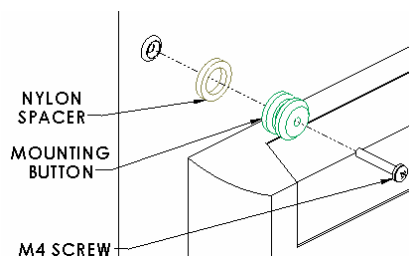
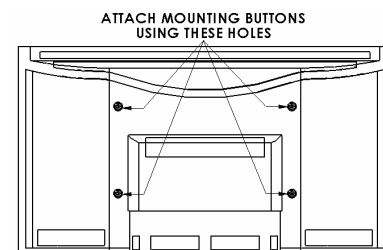

Figure 3
Figure 4
2. Place nylon spacers over mounting holes and attach mounting buttons to the display using the M4 screws provided (see Figure 3 & Figure 4).